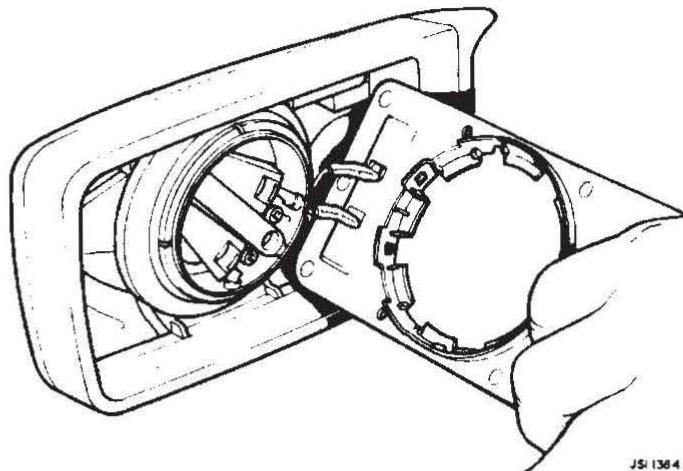

FIG 2
2. Lever the mirror glass from its mounting then, holding the glass, remove the two electrical connections (Fig.2). To avoid damage, store the mirror glass in a safe place.